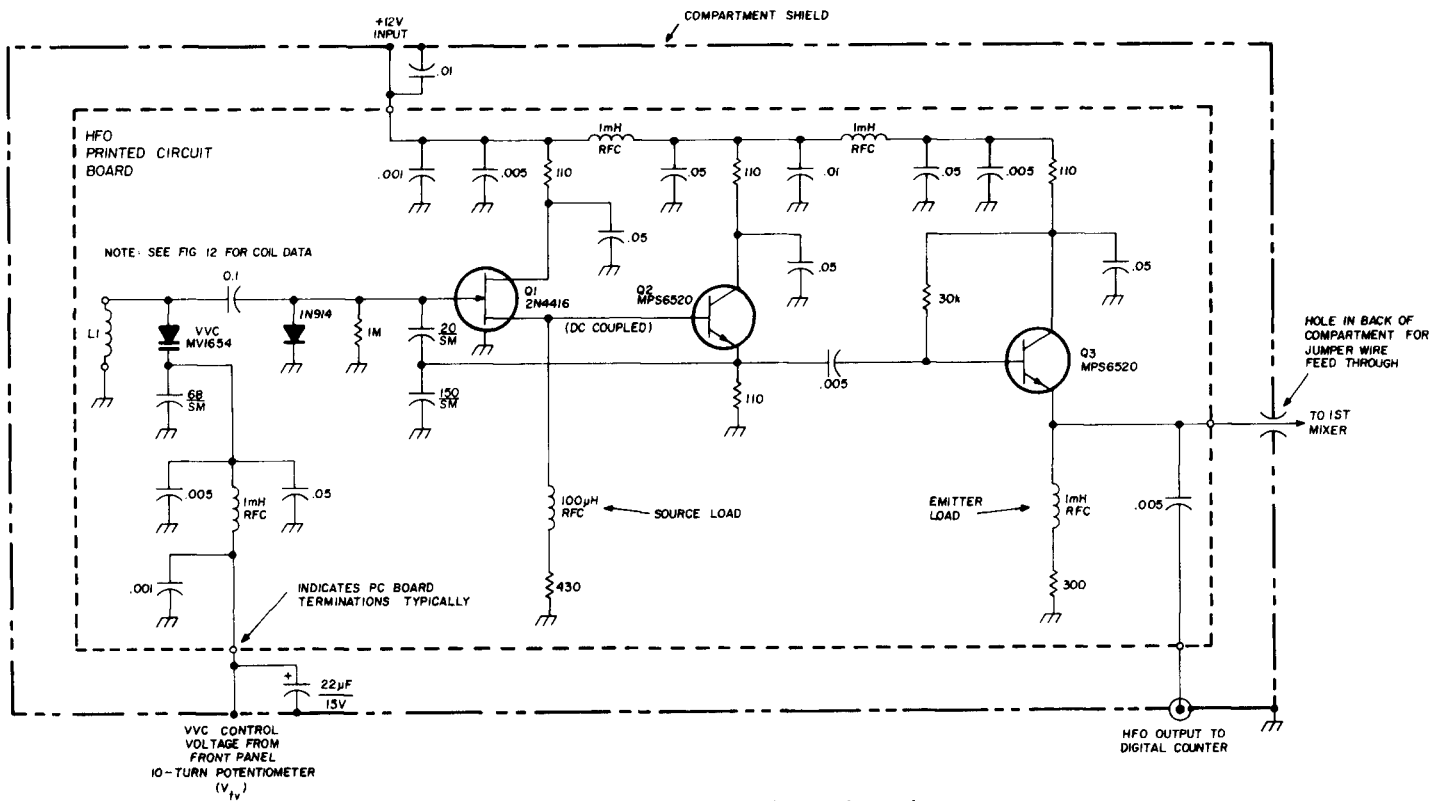

fig. 5. High-frequency oscillator schematic.
**High-frequency oscillator.** An extremely high stability HFO is illustrated in fig. 5. This is an adaptation of the design discussed in reference 2 using a Goral buffering scheme. I've used this oscillator technique from 1 to 50 MHz with various LC combinations, changing only the source and emitter load inductors. An alternative device providing equal or better output voltages is the Motorola MPS-A09 bipolar transistor. Since the mixer-stage gate and counter input circuitry are high impedances, very lit-